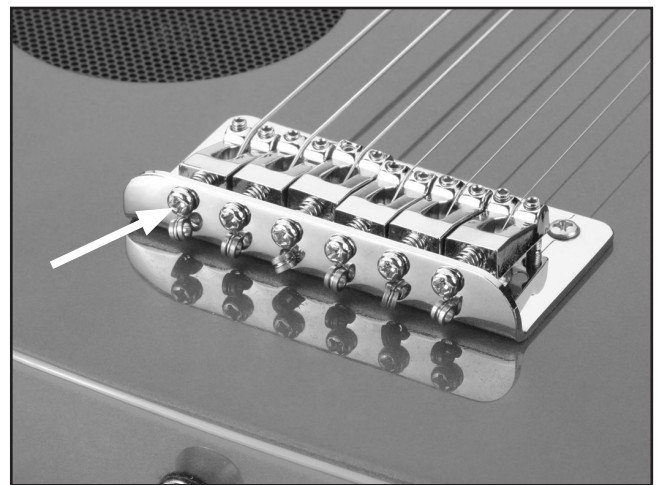

Figure 30. Saddle adjustment location.
2. Now pluck the string while holding it fretted at the twelfth fret. If this note is sharper than the note played in **Step 1**, move the saddle away from the neck by turning the Phillips head screw (**Figure 30**) clockwise. If this note is flat in comparison, move the saddle toward the neck.